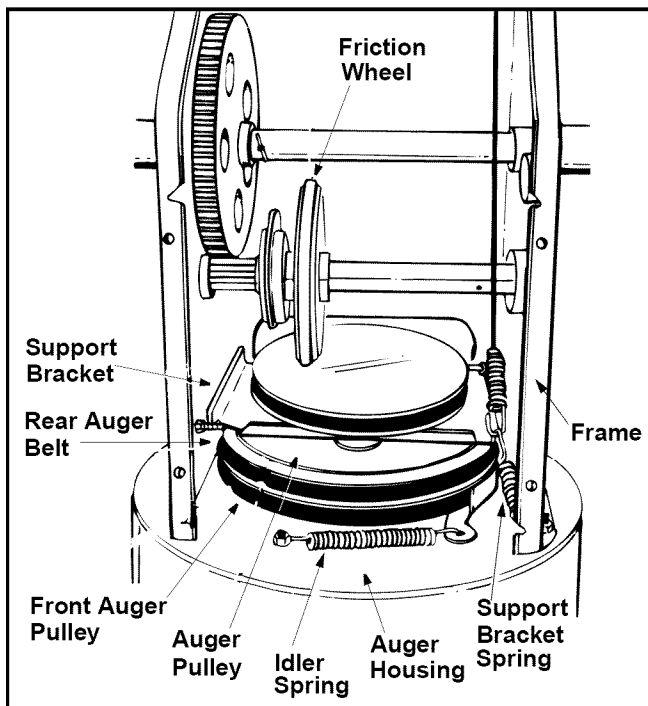

Figure 29
- Unhook the idler spring from the hex bolt on the auger housing. See Figure 29.
- Lift the rear auger belt from the auger pulley, and slip belt between the support bracket and the auger pulley. See Figure 29. Repeat this step for front auger belt (except models 600/610E).
- Slide friction wheel assembly back onto the gear shaft. Be sure to align the pin on the shift rod with hole in the friction wheel assembly. See Figure 29.